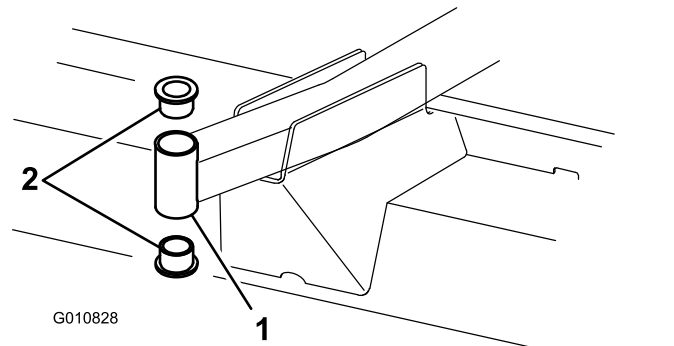

Figure 21
4. Insert a pin punch into the top or bottom of the mounting tube, and drive the bushing out of the tube (Figure 21). Also, drive the other bushing out of the tube.